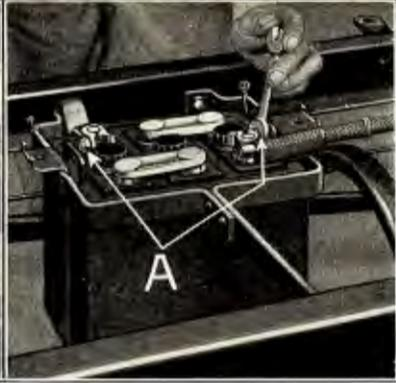

Fig. 42
- (b) Disconnect ground connector and battery to switch cable from battery by loosening the nuts on the two battery terminal bolts (See "A" Fig. 42) and lifting cable and ground connector off of positive and negative terminal posts. Battery and battery box can now be lifted out of battery box support.